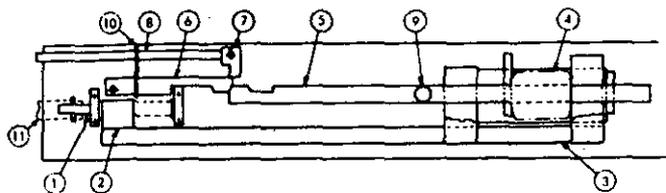
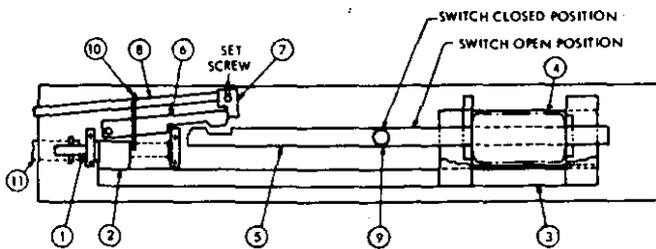

Fig. 23 - Switch in open position, with springs charged.
Fig. 24 - Switch in closed position, with springs discharged and trip lever depressed.
(1) CHARGING SCREW	(7) TRIP CAM
(2) CHARGING NUT	(8) TRIP LEVER
(3) CHARGING BAR ASSEMBLY	(9) OUTPUT PIN
(4) BELLEVILLE SPRINGS	(10) CHARGE CHECK PLATE
(5) SPRING SHAFT	(11) OPERATING HANDLE
(6) LOCKING LEVER
After the springs are fully charged, the charge check plate (10) will clear the charging nut (2) and permit trip lever (8) to be depressed. This condition is shown in Fig. 23. Trip cam (7) will then rotate counterclockwise, permitting locking lever (6) to rise. With no restraint on the spring shaft (5), the charged springs will discharge, driving the spring shaft to the left. This force is then transmitted to the switch blades through connection on output pin (9). Figure 24 illustrates this condition.
The opening operation follows the same sequence. With the switch closed, the spring shaft (5) is positioned as shown in Fig. 24. The locking lever (6) will now drop and prevent travel of spring shaft (5) to the right. The trip lever (8) will rise, thus holding locking lever (6) down and drawing charge check plate (10) up above the charging nut (2). Clockwise rotation of charging screw (1) will drive charging nut (2) to the right. The charging bar assembly (3), in turn, moves to the right and compresses the springs (4) against spring shaft (5). When the springs are fully charged, charging nut (2) will be at the end of its travel to the right. Charge check plate (10) will now clear the charging nut and trip lever (8) can be
Refer to Fig. 24. Notice that the charging nut (2) must traverse the full length of the screw (1) in either direction to store maximum energy in the springs. If the charging nut stops at some intermediate position, and pressure is applied to the trip lever (8), the charging check plate (10) will strike the top of the charging nut and prevent downward movement of the trip lever.
Refer to Fig. 24.